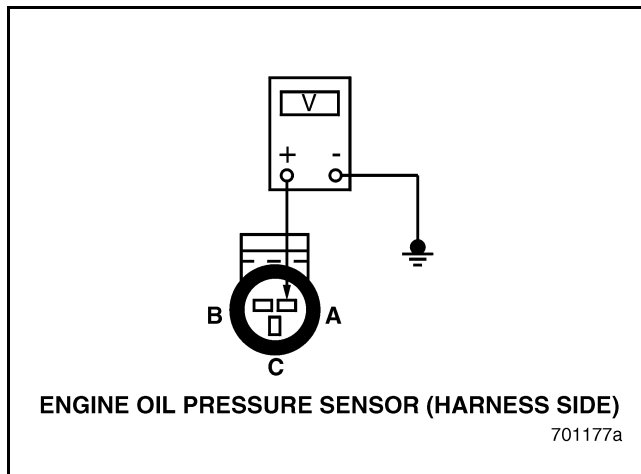

Figure 33
4. Measure voltage between EOP Sensor harness connector pin A (ground line) and a good ground (see Figure 33).